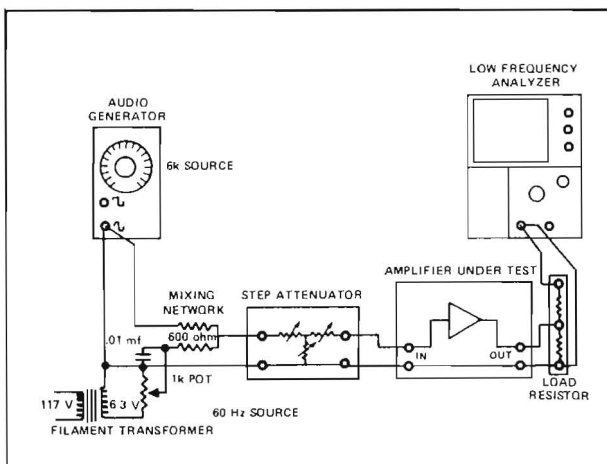

Figure 26 Equipment Setup for Intermodulation Measurement
1. This test is usually conducted in conjunction with the power output measurement of an amplifier. Two tones must be used and carefully combined for Intermodulation Distortion measurement. The SMPTE method uses the filament transformer arrangement as shown in Figure 26 for the 60 Hz source, instead of a second audio generator.